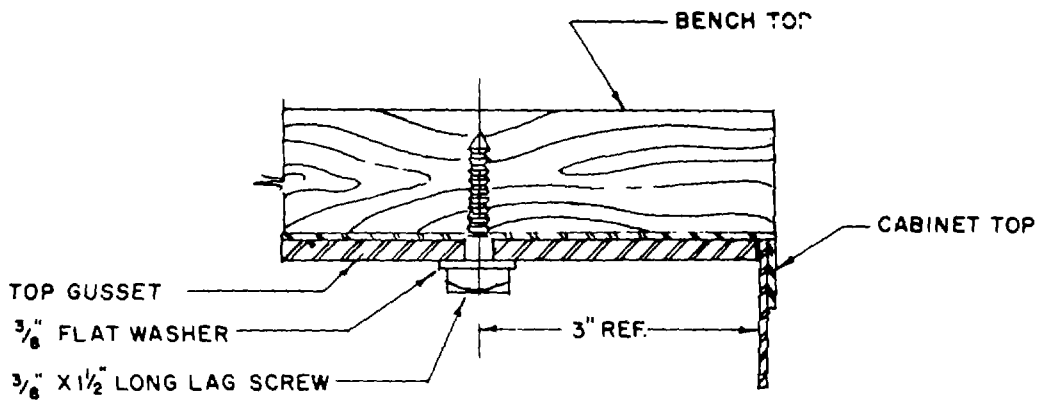

Figure 51. Bench top mounting typical installation.
- (12) *Generator, 30 kw, trailer mounted.* The generator is wheel mounted and liquid cooled; it is a self contained unit.
- (13) *Bench tops.* Bench tops are mounted on the top of the storage cabinets. Lag screws are installed to mount the bench tops as shown in figure 51. Additional security of the bench top obtained when bench mounted equipment is